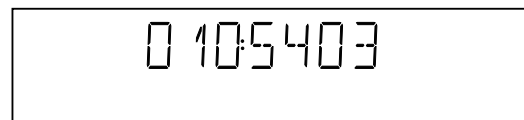

Fig. 34
The loop test will perform the same nuclei as the dealer test, but it will loop through the list of nuclei indefinitely. The display of the DVD player will display not only the three digits indicating correct/faulty modules and the last found error code (as mentioned, faults are detected as far as they can be within the scope of the diagnostic software), but also a loop counter indicating how many times the loop has been gone through. If an error was detected, the display will remain as in Fig. 34 until the user presses the PLAY key and then it will continue to the next loop.
**After one loop cycle:** Display the 3-digit module bits together with the last error code which occurred in the loop test. The 4 digits at the right side of the display (Fig. 34) show the last error that was found during the loop test. The leftmost two digits (54) of this code indicates which nucleus resulted in a fault. The rightmost two digits (03) refer to the faultcode within that nucleus. For further explanation of this error code, refer to chapter 8 (Nuclei Error Codes).